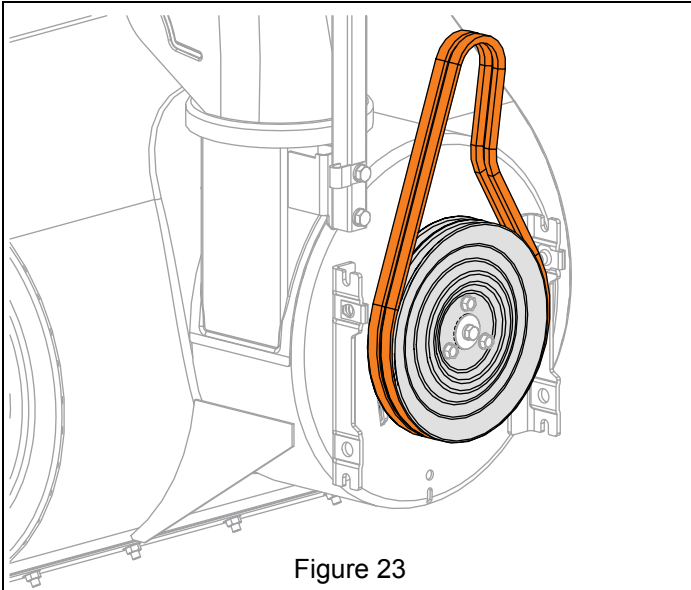

Figure 23
4. Remove attachment drive belts from attachment drive pulley. See Figure 23.